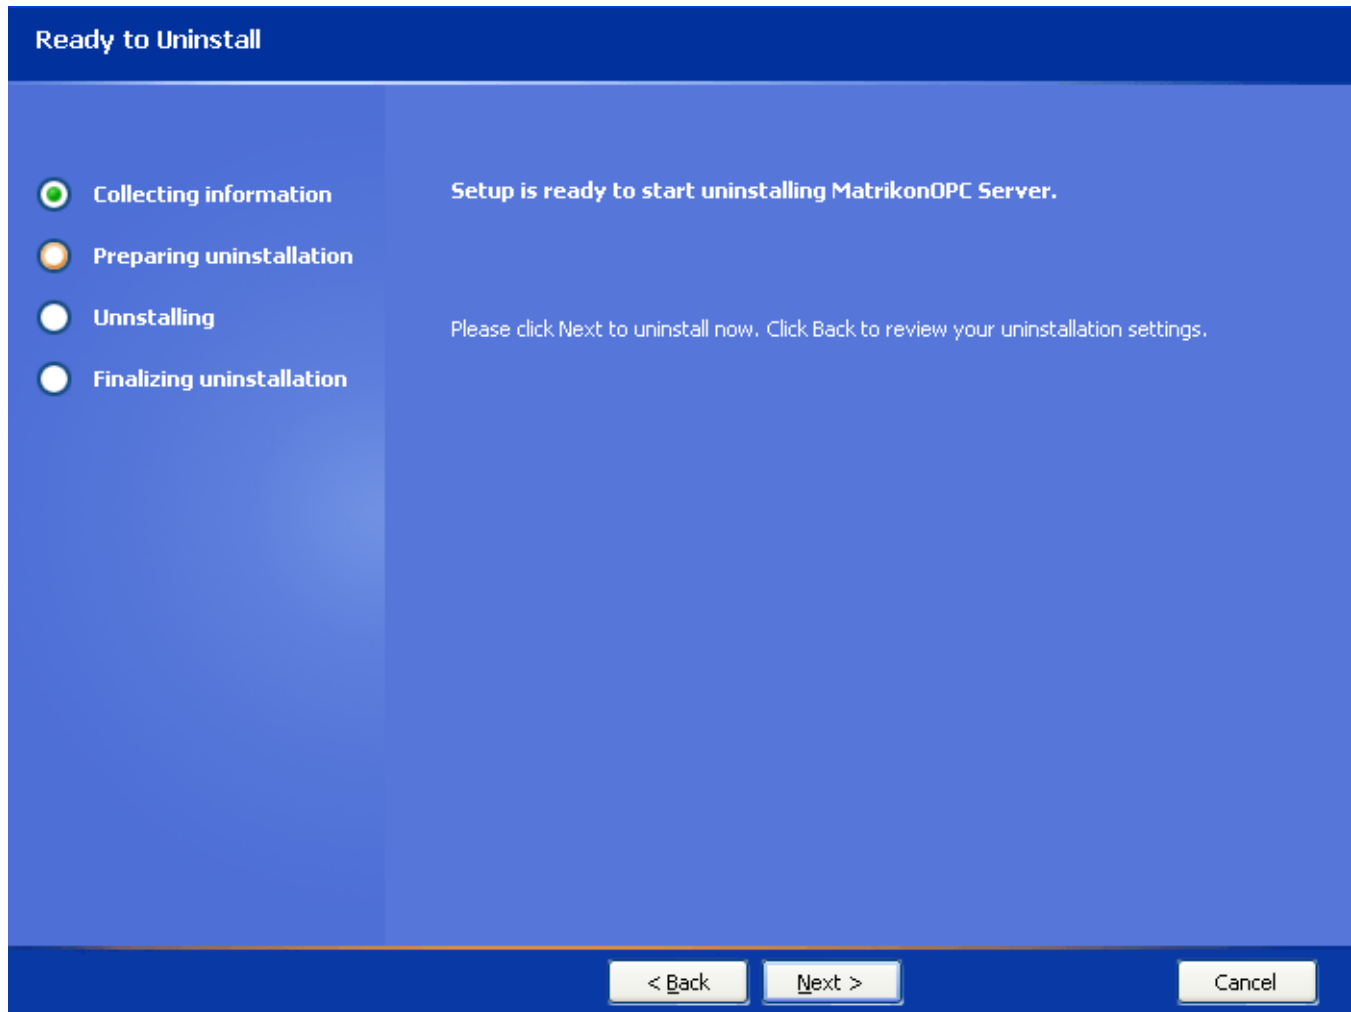

Figure 96 - Ready to Uninstall Screen
8. Click on the **Next** button. The **Ready to Uninstall** screen (Figure 96) is displayed.